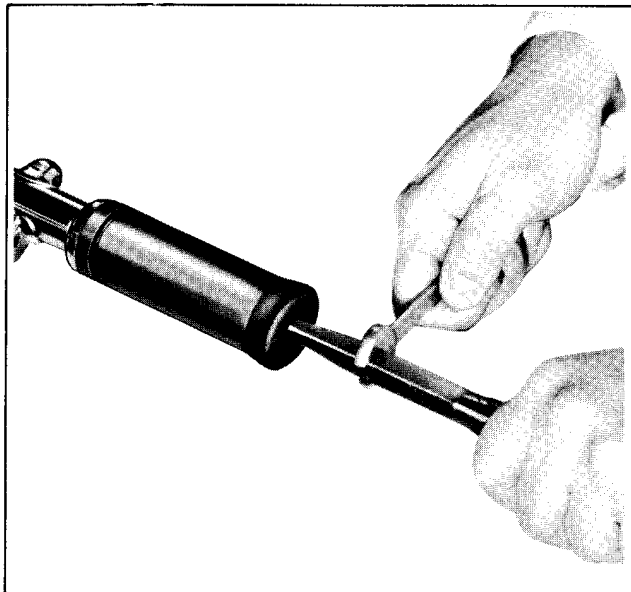

Figure 2-15. Removing Handlebar Control
2. Insert a large screwdriver through hole in end of grip as shown in Figure 2-15 and loosen handlebar end screw (1). Handlebar end screw and spring (2) will remain inside grip. Remove grip sleeve assembly (3), exposing working parts.